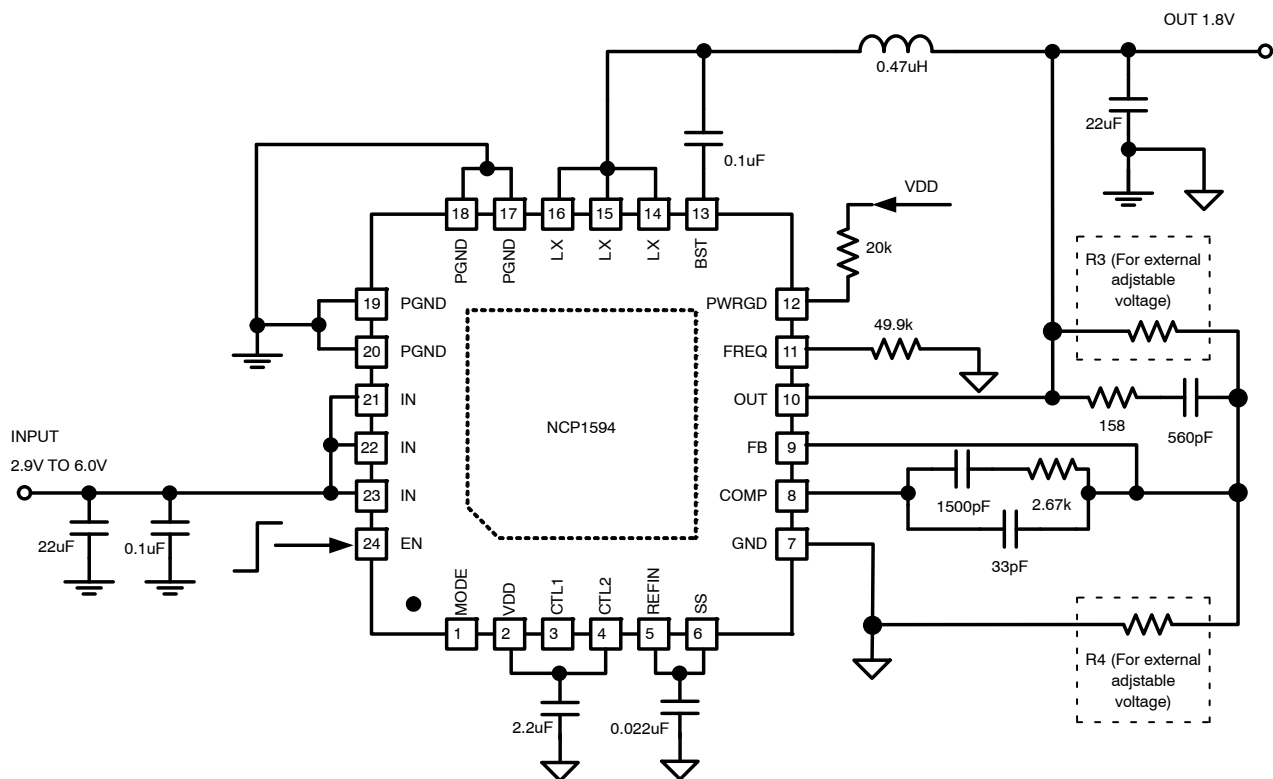

Figure 3. Typical Application Schematic.
*Install an 8.06 kΩ resistor at R3 and do not install a resistor at R4 (see Figure 3).
The high switching frequency range of the NCP1594 allows the use of ceramic output capacitors. Since the ESR of ceramic capacitors is typically very low, the frequency of the associated transfer function zero is higher than the unity-gain crossover frequency, f_C , and the zero cannot be used to compensate for the double pole created by the output filtering inductor and capacitor. The double pole produces a gain drop of 40 dB/decade and a phase shift of 180°. The compensation network error amplifier must compensate for this gain drop and phase shift to achieve a stable high-bandwidth closed-loop system. Therefore, use type III compensation as shown in Figures 3 and 4. Type III compensation possesses three poles and two zeros with the first pole, f_{P1_EA} , located at zero frequency (DC). Locations of other poles and zeros of the type III compensation are given by: